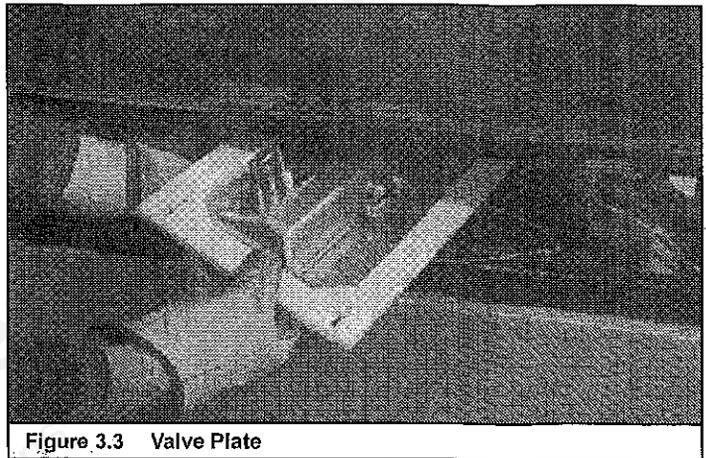

Figure 3.3 Valve Plate
- Rotate the valve plate assembly horizontally so the pilot assembly comes out first from the valve compartment. See Figure 3.3. Care should be used to not damage the pilot when removing the valve plate assembly.